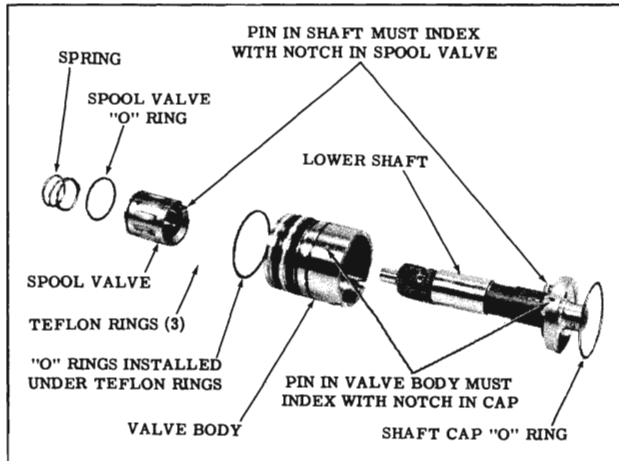

Fig. 4-55 Valve and Lower Shaft Assembly
#### ASSEMBLY (Fig. 4-55)
3. Assemble the lower shaft assembly in the valve body so the notch in the lower shaft cap engages with the pin in the valve body. (Fig. 4-55) If necessary, tap the shaft cap with a plastic hammer until cap is seated in the valve body.